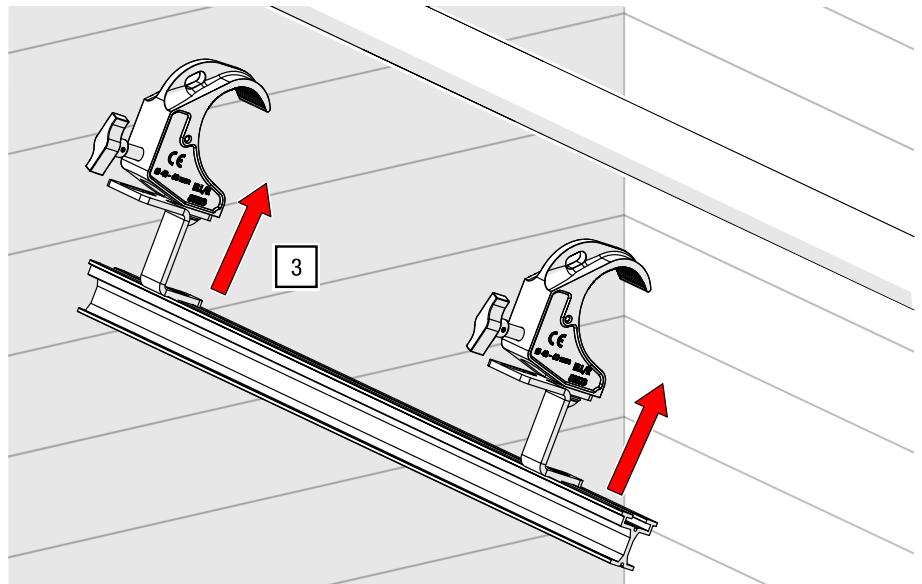

Fig. 65: G-CLAMP – Position on pipe
3. Open the pipe clamps to the maximum and lift them onto the pipe of the supporting structure (see Fig. 65).